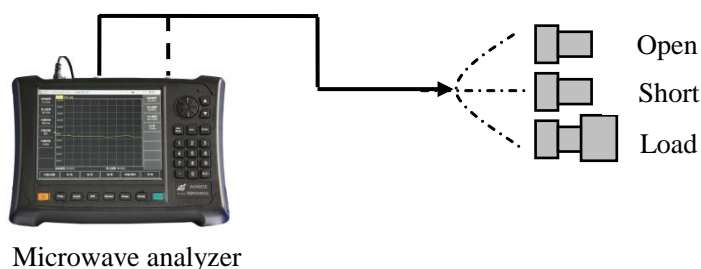

Fig. 4-15 Test block diagram of effective direction, effective source matching and reflection tracking
Test block diagram is shown in Figure 4-15:
- 3) Press **【Calibrate】** →[Cal Kit] to select the correct calibration kit, then press [M Cal]→[One Port@S11], as shown in Fig. 4-15, to complete the measurement of standard parts such as OPEN, LOAD and SHORT, and finally press [Done] to complete the calibration;
- 3) Press **【Calibrate】** →[Cal Kit] to select the correct calibration kit, then press [M Cal]→[Resp. & Iso S12]→[Iso], as shown in Fig. 4-15, connect the anode-anode or cathode-cathode test cable to Port 1 or Port 2, connect the LOAD at the end of the cable to the other port, and finally press [Iso] to complete isolation calibration;
- 3) Press **【Calibrate】** →[Cal Kit] to select the correct calibration kit, then press [M Cal]→[Resp. & Iso S12], as shown in Fig. 4-15, use the test cable to connect Port 1 with Port 2, and finally press [THRU] to complete THRU measurement;
- 7) Press **【Calibrate】** →[M Cal]→[Resp. & Iso S21], as shown in Fig. 4-15, use the test cable to connect Port 1 with Port 2, and finally press [THRU] to complete THRU measurement;